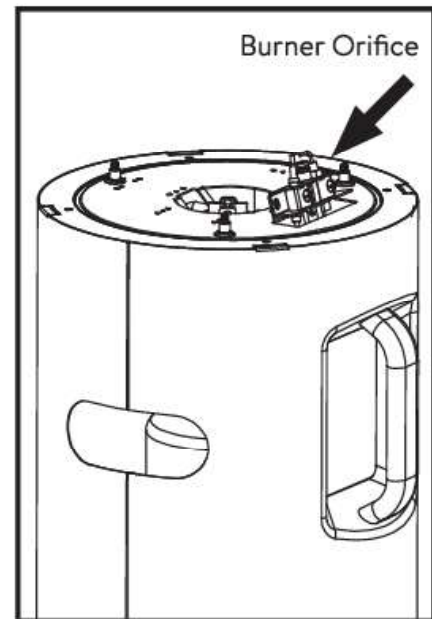

Fig. 5
Always keep the heater area clear and free from combustible materials, gasoline and other flammable vapors and liquids. Keep the vent areas (slots in the bottom and the top at the front of heater) clear at all times so combustion air and ventilation is not obstructed. Visually inspect the pilot flame and burner periodically during use so combustion air and ventilation is not obstructed. The pilot flame should be blue in color (not yellow) and will extend beyond the thermocouple. The flame will surround the thermocouple just below the tip, see Figure 5. A slight yellow flame may occur where the pilot flame and main burner flame meet. The burner(s) should be bright orange (with a slight blue color around the border, a red-orange haze that is visible on the burner is acceptable) and without a noticeable flame. A blue flame that rolls out at the top indicates an accumulation of dust, lint or spider webs inside the main burner assembly. The burner should glow red/orange with some small blue/orange flames around the outside. Flames should never extend beyond the protective screen. If the pilot is yellow or the burner has a noticeable flame, cleaning may be required. Use the following procedure to inspect main burner assembly. It is necessary to periodically check the burner(s) orifice and burner venturi tube to make sure they are clear of insects/nests or spider webs that may accumulate over time. It is strongly recommended that these maintenance instructions be performed annually. A clogged tube can lead to a fire.
5. Inspect and clean the pilot (mounted to bracket) by using a vacuum or apply air pressure through the holes in the pilot indicated by the arrows in Figure 5.